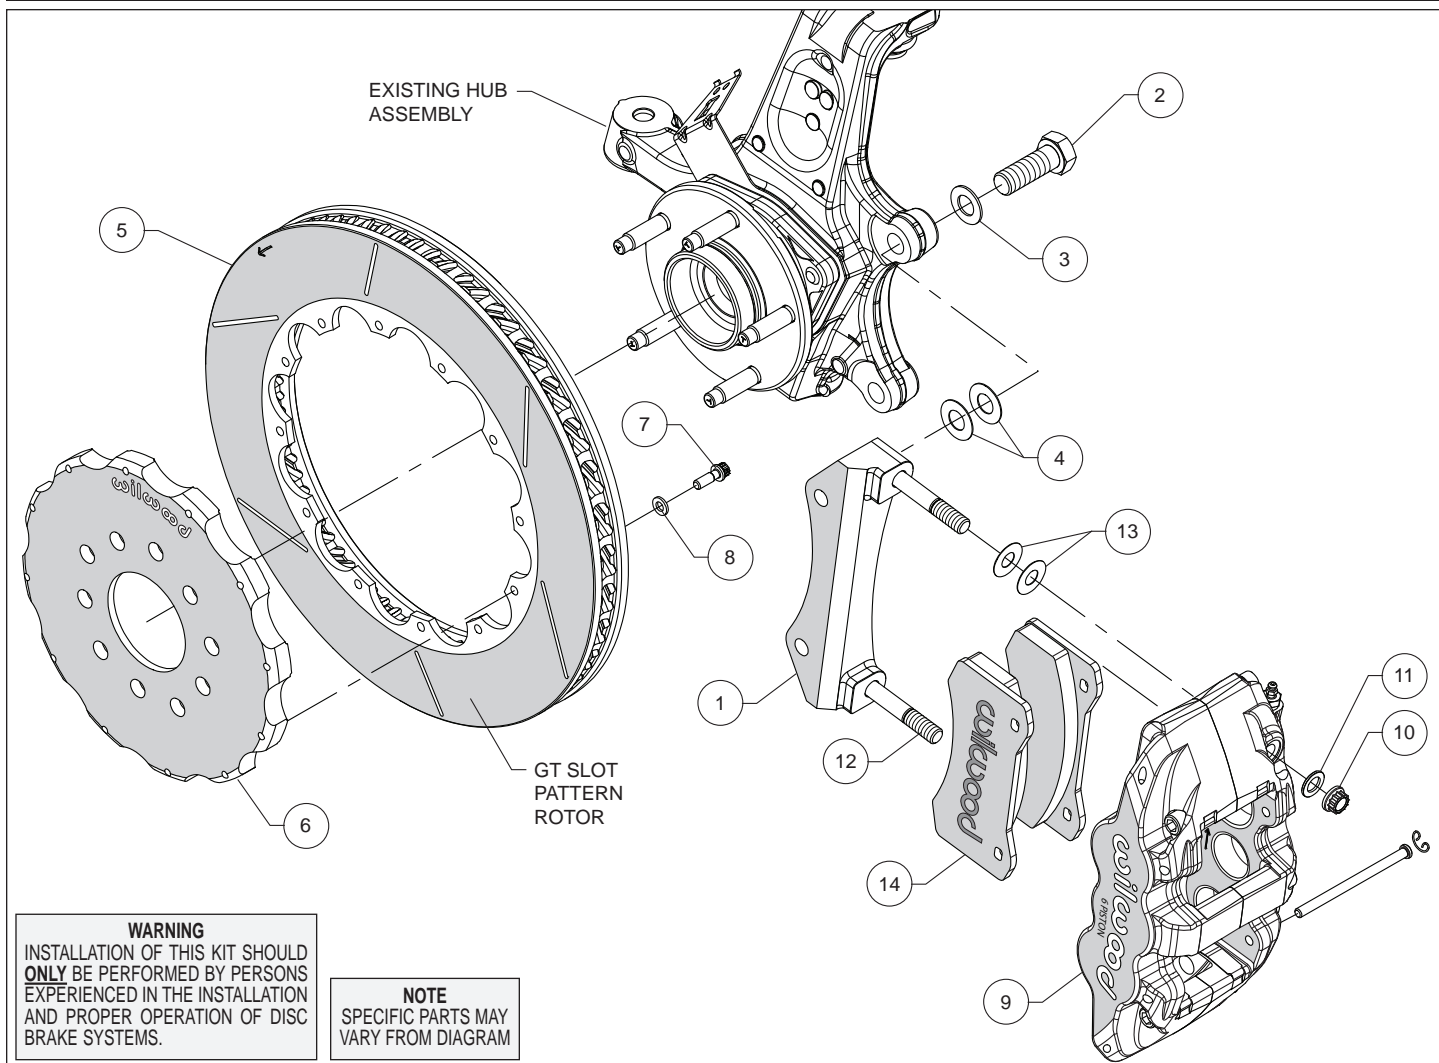
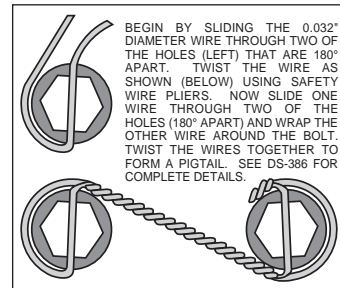

Figure 1. Typical Installation Configuration
Figure 3. Safety Wire Diagram
Assembly Instructions (numbers in parenthesis refer to the parts list and Figure 1 on the preceding pages):
- The caliper mount bracket (1) should initially be installed with clean, dry threads on the mounting bolts. Orient the bracket, as shown in Figure 1 and install using bolts (2) and washers (3). Initially place two .029" thick shims (4) on each bolt between the bracket and upright, Figure 1. Temporarily tighten the mounting bolts. **NOTE:** *The bracket must fit squarely against the mount bosses on the upright.* Inspect for interference from casting irregularities, machining ridges, burrs, etc. Later, after the caliper alignment has been checked, the mount bolts will be secured using red *Loctite*[®] 271.
- Orient the rotor (5) and the hat (6) as shown in Figure 1 and Photo 1. Attach rotor to hat using bolts (7) and washers (8). Using an alternating sequence, apply red *Loctite*[®] 271 to the threads, and torque to 155 **in-lbs**. Safety wire bolts using standard 0.032 inch diameter stainless steel safety wire as shown in Figure 3. Refer to Wilwood's data sheet DS-386 (available at www.wilwood.com/Pdf/DataSheets/ds386.pdf) for complete safety wire installation instructions.
- NOTE:** *This kit contains distinct right and left hand calipers that must be mounted in a specific direction, as described below.* Lubricate the caliper mounting studs (12) with lightweight oil. Initially place two .016" thick shims (13) on each stud between the caliper and the bracket, as shown in Figure 1 and Photo 2. Mount the caliper (9) onto the bracket (1) using lock nuts (10) and washers (11), Figure 1. Temporarily tighten the lock nuts. Ensure that the caliper is mounted so the largest pistons are at the rotor exit end of the caliper, in relation to the direction of the rotor. View the rotor through the top opening of the caliper. The rotor should be centered in the caliper, Photo 3. If not, adjust by adding or subtracting shims (4) between the bracket and the upright. Always use the same amount of shims on each of the two mounting bolts. Once the caliper alignment is correct, remove the bracket mounting bolts (2) one at a time, apply red *Loctite*[®] 271 to the threads, and torque to 77 ft-lbs.
- Remove the two pad retaining pins from the caliper (9) by carefully popping out the pin retaining clips and sliding out the pins. Insert the brake pads (14) into the caliper from the bottom, Figure 1 and Photo 4. With the friction material facing the rotor, secure the brake pads in place with the pad retaining pins and clips, Photo 5. Reinstall the caliper onto the caliper mounting bracket and temporarily tighten the lock nuts (10). Check that the top of the brake pad is flush with the outside diameter of the rotor, Photo 6. If not, adjust by adding or subtracting shims (13) between the caliper and the bracket. After the caliper pad height is set, torque the caliper lock nuts (10) to 47 ft-lb.